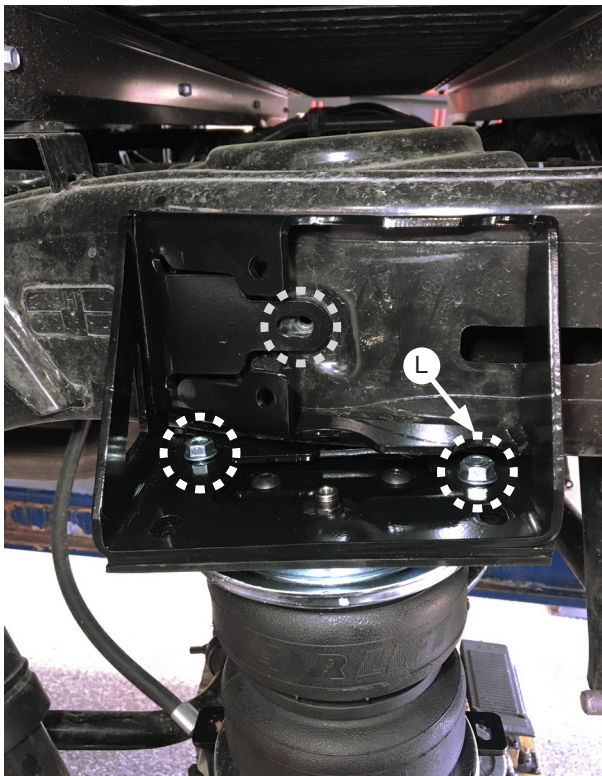

Fig. 17
2. Once each assembly is in place, thread two serrated nuts (L) onto the two short carriage bolts (K) from step 2 of the *Assembling the Air Spring Assemblies* section, but leave them loose at this time (Fig. 17). Install an M8 flanged bolt (S) through the upper brace into the frame (circled in gray) (Fig. 17) and torque to 18 lb.-ft. (24Nm). Torque the two serrated nuts (circled in white) to 16 lb.-ft. (22Nm) (Fig. 17).